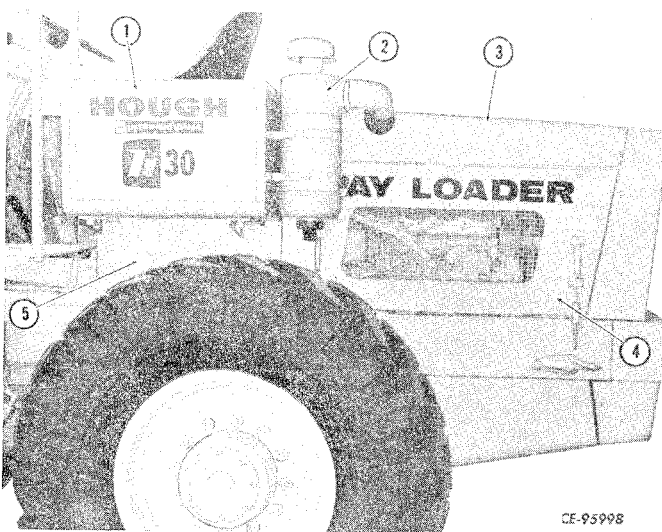
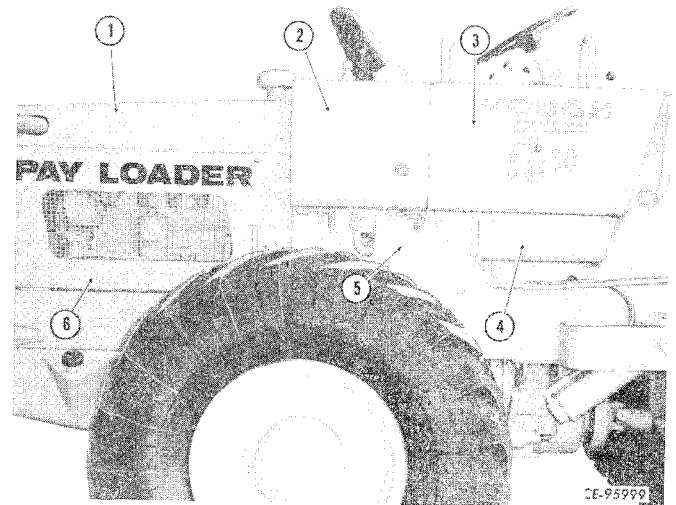
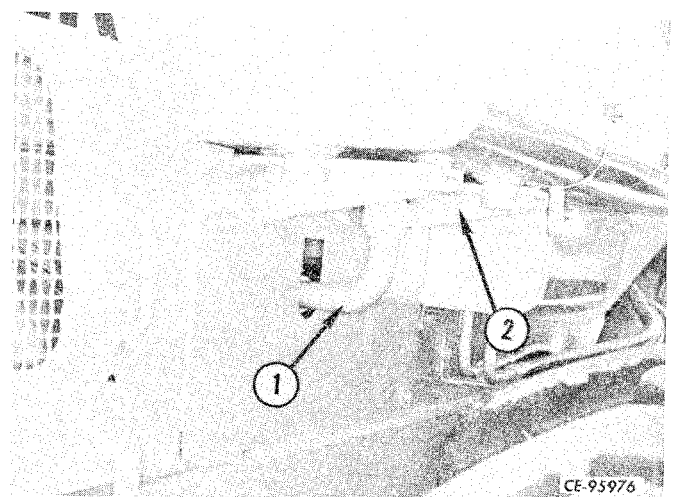

Figure 3-3
Figure 3-4
Figure 3-5
Removal of the battery box (1, Fig. 3-3), hydraulic reservoir (2, Fig. 3-4) and support (2, Fig. 3-5) assembly is required to gain access to the converter.
Remove the hood (1, Fig. 3-4), upper panel (3), lower panel (4), rear panel (5, Fig. 3-4 and 5, Fig. 3-3), engine side panels (4, Fig. 3-3 and 6, Fig. 3-4), ladder (5, Fig. 3-3), rear floor-board (6), seat deck (7) and front panel (4).
Drain the hydraulic reservoir. Disconnect all tubing (8, Fig. 3-3) from control valve.
Disconnect the reservoir-to-pump line (1, Fig. 3-5).
Attach a suitable sling and hoist to the support assembly (2, Fig. 3-5) and raise the hoist slowly to take up slack in sling.